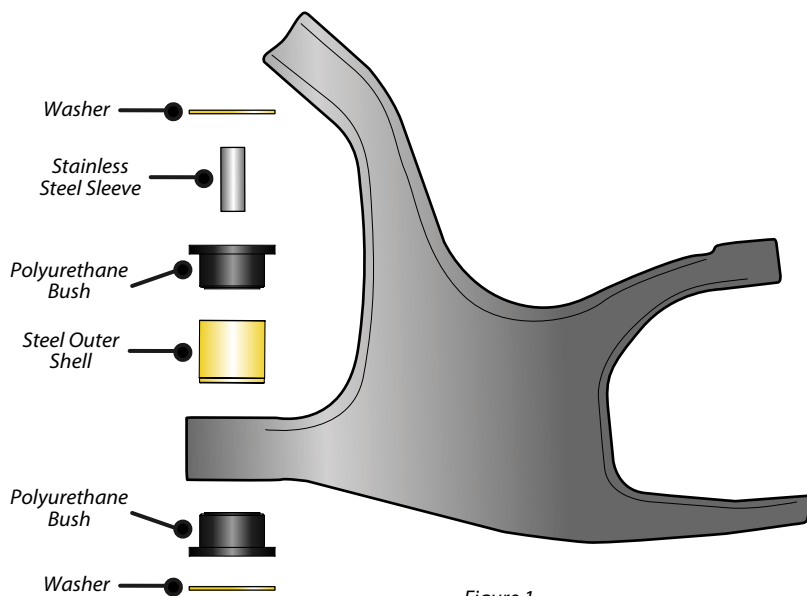

Figure 1
7. Re-fit the arm to the vehicle with the supplied washers on the end of each bush as shown in Fig 1.